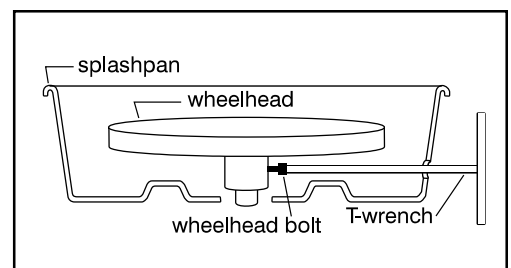

Figure 4
3. Using T-wrench (provided), loosen wheel head bolt (figure 4).
11. Insert T-wrench through access hole and tighten wheel head bolt (figure 4).